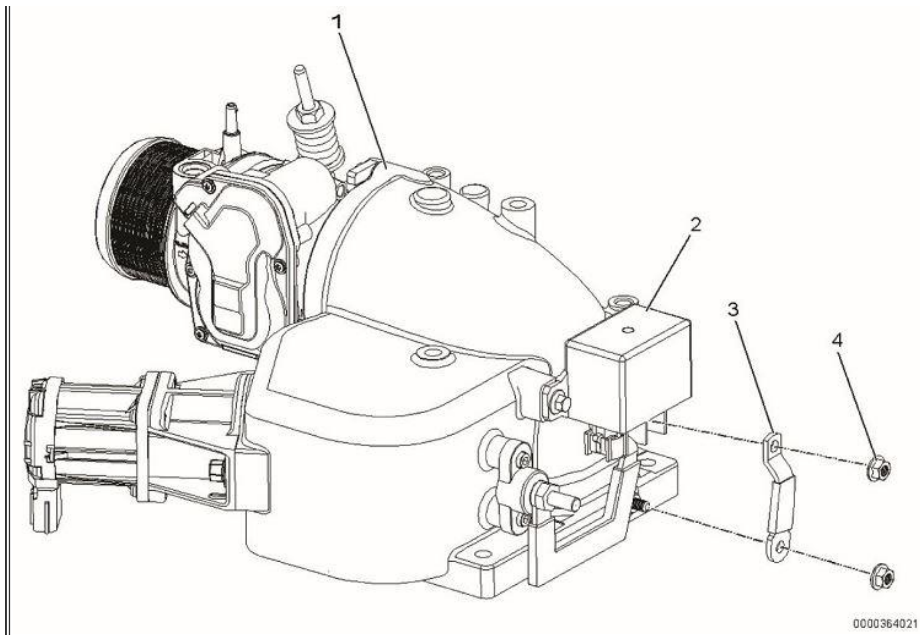

Figure 3: IAH Relay Buss Bar Removal
4. Serrated nut (2)
20. Remove two serrated nuts (Figure 3, Item 4) and IAH relay buss bar (Figure 3, Item 3) from mixer assembly (Figure 3, Item 1).
21. Remove two bolts and Allen nuts securing IAH relay assembly (Figure 3, Item 2). Remove relay assembly.